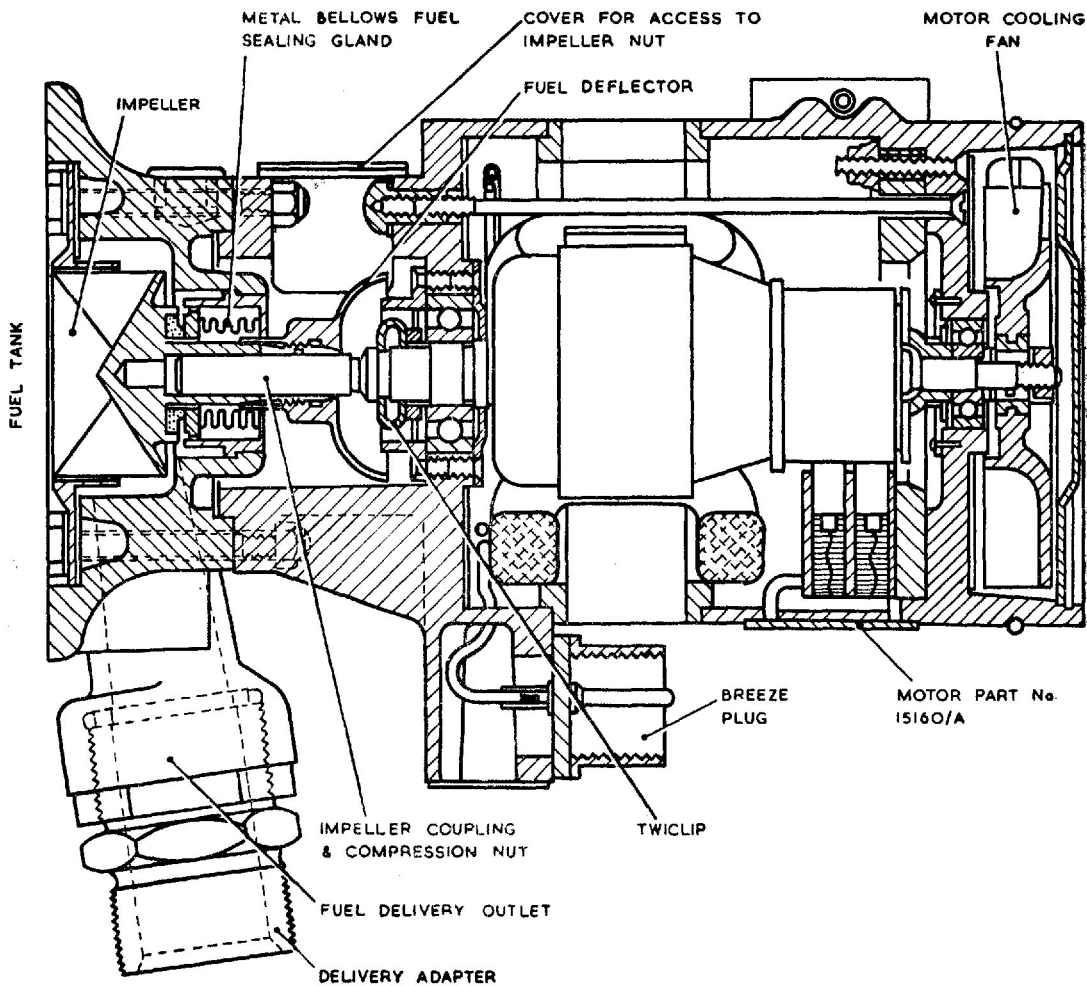

Fig. 1. Sectional view of fuel pump
4. A sectional view of the pump is shown (*fig. 1*), and consists mainly of an electrically driven motor, supported in the upper end of the pump body, and secured to it by six bolts, nuts and washers. The impeller is driven by the motor, being secured to it by a special coupling. By switching on the supply, the pump motor is started, and operation is automatic, the pump drawing fuel from the tank, and delivering it to the inlet side of the engine driven pump.